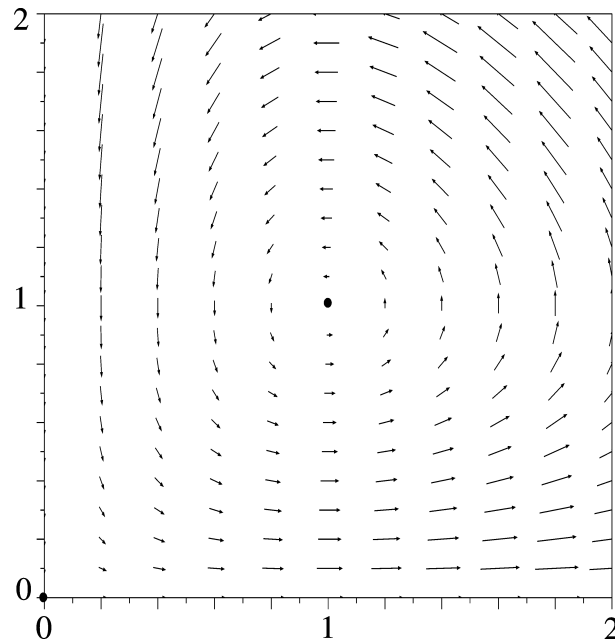

Figure 3.4: Vector field associated with the Lotka-Volterra system, in the plane  $(x_1, x_2)$
1) Figure 3.4 corresponds to the vector field associated with the evolution function: